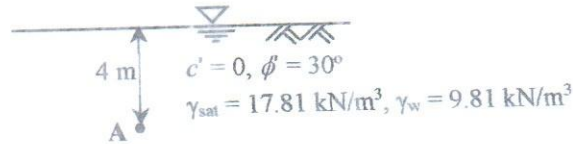

Fig. 6
- 6(b). Calculate lateral total stress at Point A shown in Fig.6. Use Jaky's equation for the coefficient of earth pressure at rest. (6)